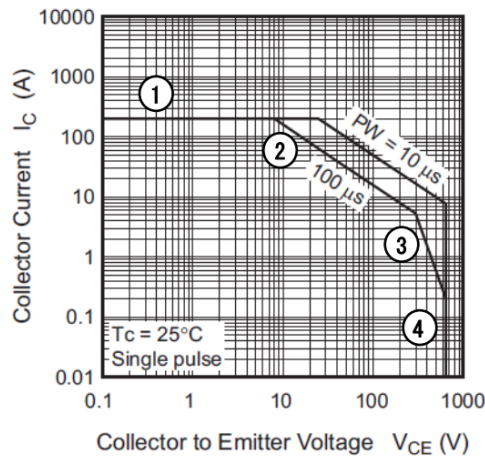

Figure Q1-b
c. Figure Q1-c shows the turn-on and turn-off transient voltage and current waveforms of a power diode. Please relate the labels ① to ⑤ to the following five parameters of the power diode: